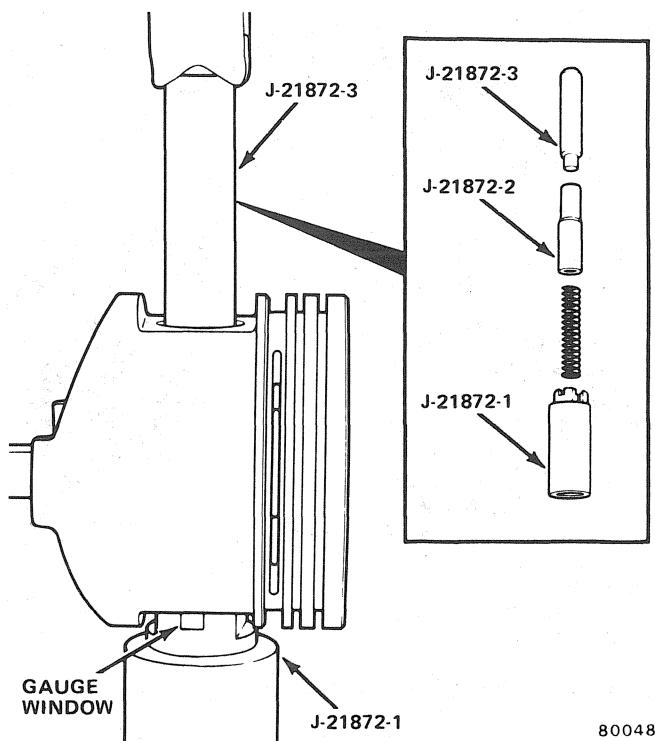

Fig. 1B-145 Piston Pin Removal and Installation
(1) Position piston and connecting rod so that piston notches will face forward and rod squirt hole will face inward when assembly is installed in engine.
(2) Place Pin Pilot Tool J-21872-2 through piston and connecting rod pin bores (fig. 1B-145).
(3) Place pin pilot, piston and connecting rod on Support Tool J-21872-1.
(4) Insert piston pin into piston pin bore and into connecting rod pin bore.
(5) Insert Piloted Driver Tool J-21872-3 into piston pin.
(6) Use arbor press to press piston pin through connecting rod and piston bores until pin pilot indexes with mark on support.
(7) Remove piston and connecting rod assembly from press. Pin should be centered in rod  $\pm 1/32$  inch (0.787 mm).